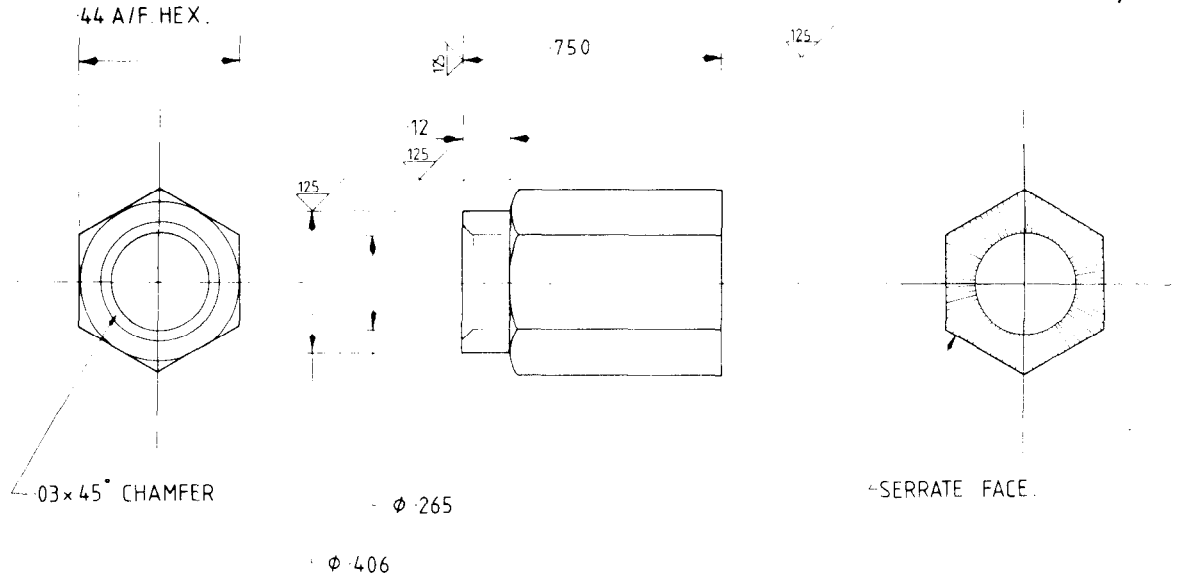

FIG 2 - TOOL FOR INSERTING TAP RIVETS
- c. Using the tool shown in Fig 2, fit the tap rivets, item 3 from Table 1.
1. Tap rivets and the associated fitting tool are not in-service items. As their use is becoming common in industry and the soldier tradesman will come across them on Mack and other vehicles, a simple tool and the method of using it is illustrated in Figs 2 and 3.
- d. Using gasket, item 4 and screws item 2 from Table 1, secure the grab handle in position.
10. Referring to Fig 2, manufacture a tool for inserting tap rivets.